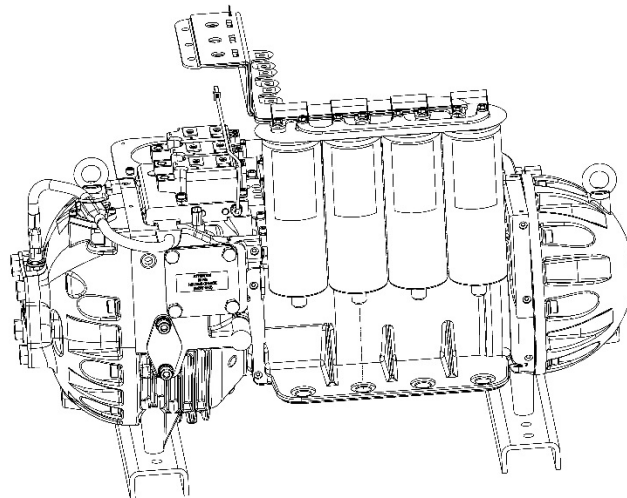

Figure 11 – Capacitor Assembly Removal
19. Carefully lift the DC Bus Bars and capacitors out as an assembly. Do not remove the bleed resistors or capacitors from the bus bars. Refer to Figure 11 (Capacitor Assembly Removal).